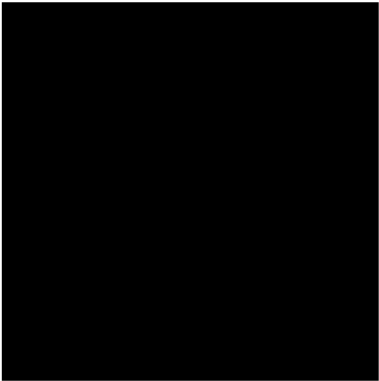

Figure1.
- When the truck comes to the site, check the Quantity and Quality of the Rail and other equipment that came to the site according to the form. (Figure1.)